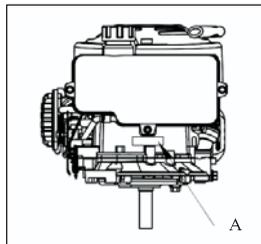

Figure. 15
13.1 EMPLACEMENT DU NUMÉRO DE SÉRIE (Voir la figure 15)